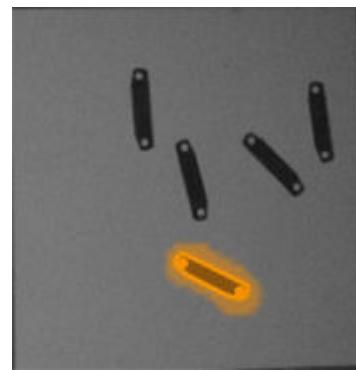

Figure 21: Highlighted part contours
- ✓ When the system locates the part, a "Job configured" message is displayed in the user interface and the part contours are highlighted in the image window. See figure 21.